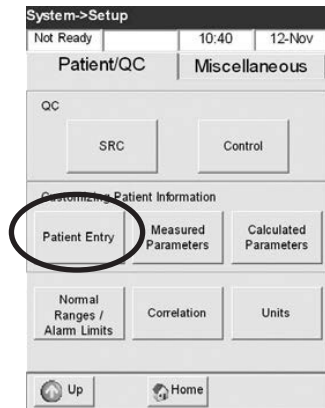

Fig. 3-13 Select Patient Entry
- In the **<System Setup>** menu, press **<Patient Entry>** (Fig. 3-13).